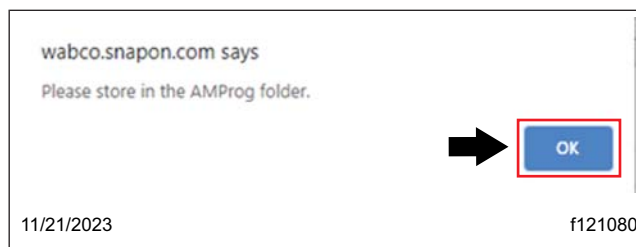

Fig. 16, Storage Location Recommendation
20. A message window will appear recommending the file storage location. Select 'OK' to continue. See Fig. 16.